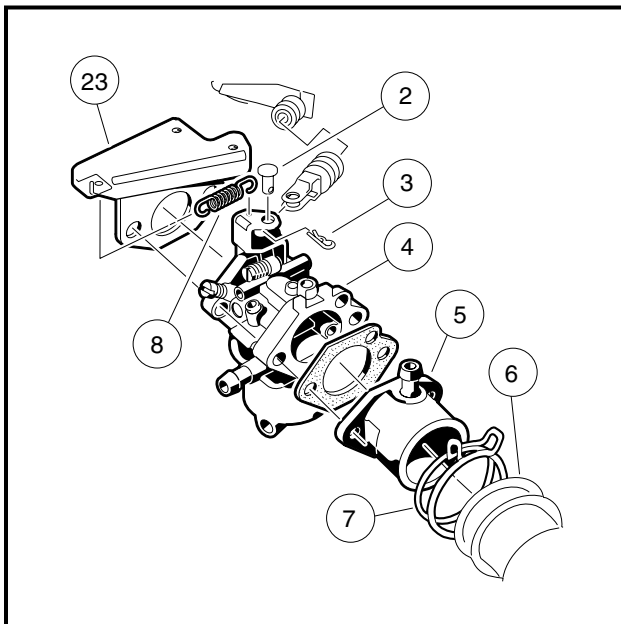

Figure 13-6 Carburetor Removal
4. Loosen air intake hose clamp (7) from the intake pipe (5) and remove hose (6) (**Figure 13-6, Page 13-9**).
6. Remove cotter pin (3) and clevis pin (2) from throttle lever (**Figure 13-6, Page 13-9**).
7. Remove nuts at carburetor intake pipe (5) and remove intake pipe. See following **CAUTION**.
8. Remove carburetor (4) along with throttle spring (8) and throttle spring bracket (23) (**Figure 13-6, Page 13-9**).